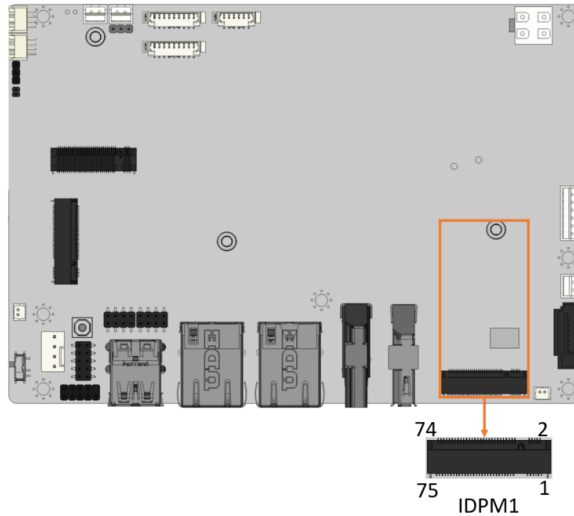

Figure 3-21: iDPM Slot Location
- CN Location:** See Figure 3-21